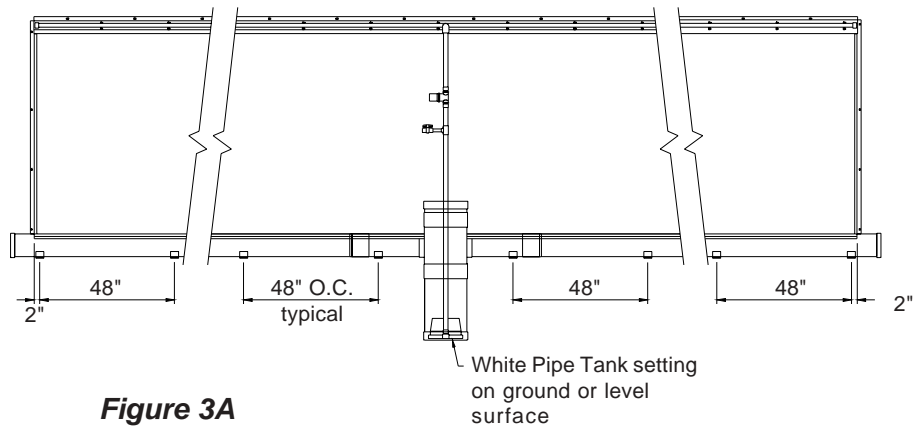

Figure 3A
- 3) For proper pipe support bracket spacing refer to **Chart A, Figures 3A and 3B.**